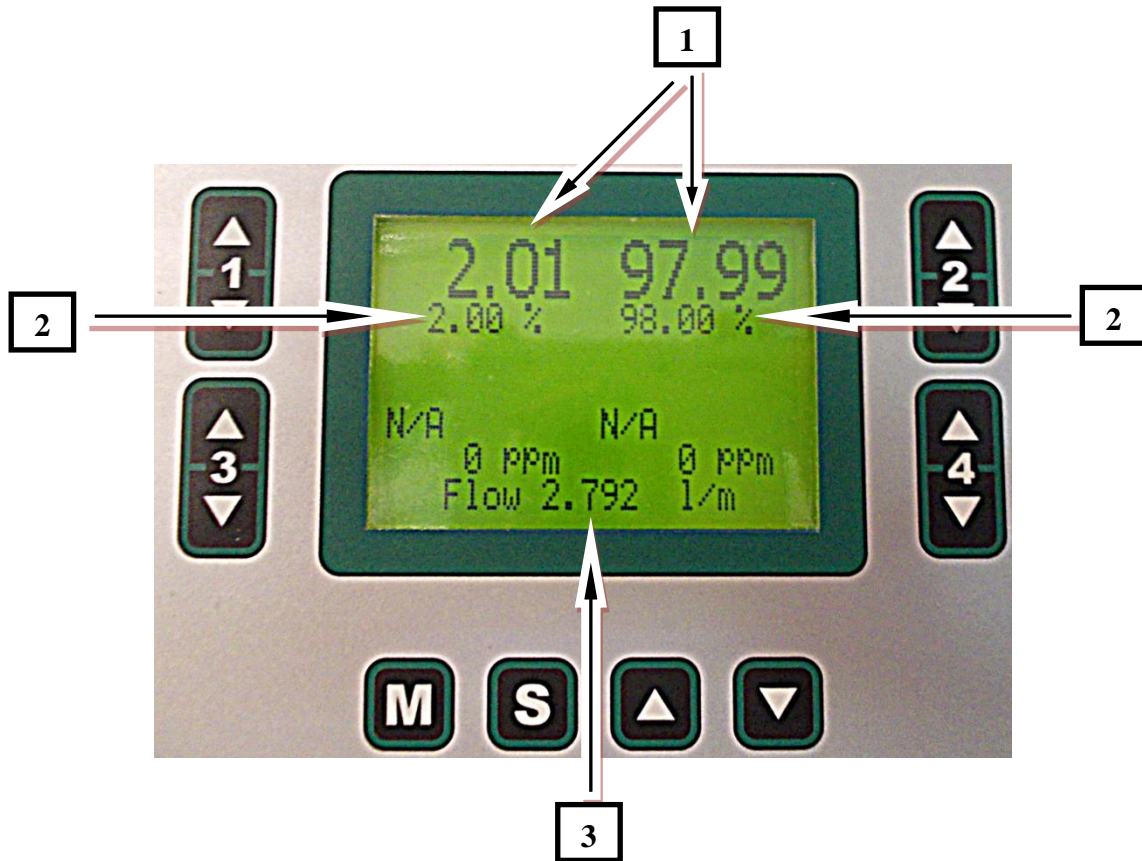

Fig. 11 Display with Relative Gas Flow Units
- The current flow values for gases used are shown on the top of the display, on left side is usually current gas flow for CO₂, on the right side is usually current gas flow for Air/N₂. (Fig. 11)